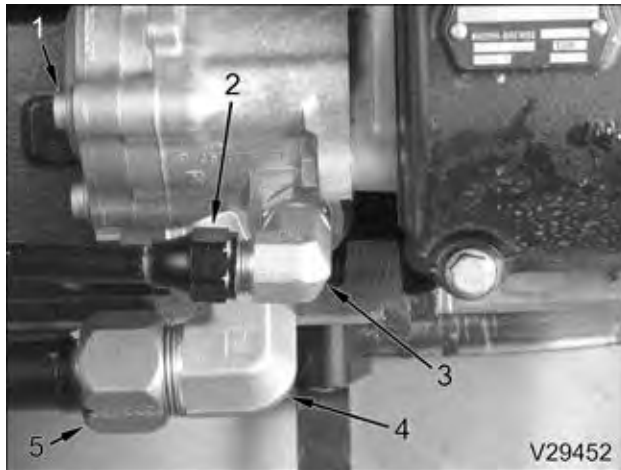

Figure 36. Power Steering Pump Connections
32. Torque HP tube fitting nuts to 45 lb-ft (62 N·m) and low-pressure to 120 lb-ft (164 N·m) (Figure 36).